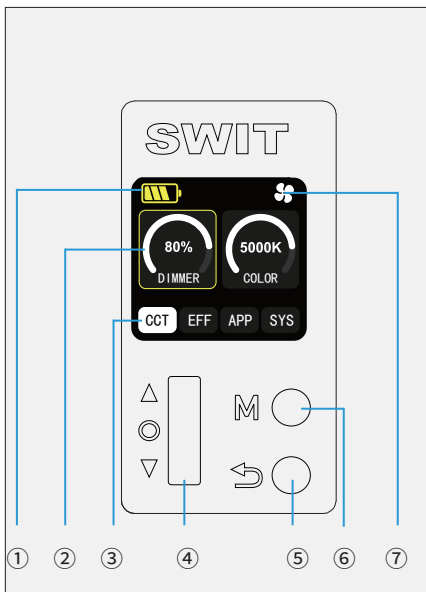

Figure 7 Control Panel
- 4) Press the rotary encoder (Figure 7 ④), and perform firmware upgrade following the path: "SYS" → "Upgrade" → "Yes".
- ▶ Press the "M" key (Figure 7 ⑥), follow the path "SYS" → "Firmware Version" to check the device's firmware version. If the version number matches that of the upgrade package, the firmware upgrade is successful.
- 1) Press the back key (Figure 7 ⑤) to exit the current interface, and repeat Step 4 of **[Firmware Upgrade Steps]** until the upgrade succeeds;